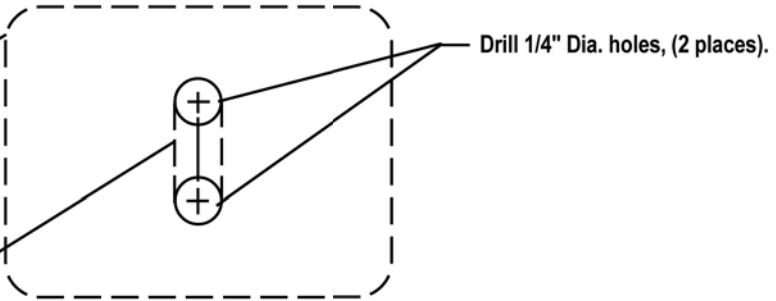

Figure 2
3. Drill (2) 1/4" diameter holes in the location marked on the template. After drilling, use a file or razor knife to remove the dash material between the (2) holes.
5. Pass the wires from the switch through the hole in the panel, remove the paper lining from the mounting pad on the back of the switch, properly align the switch, and firmly press in place on the panel. (Fig.2)